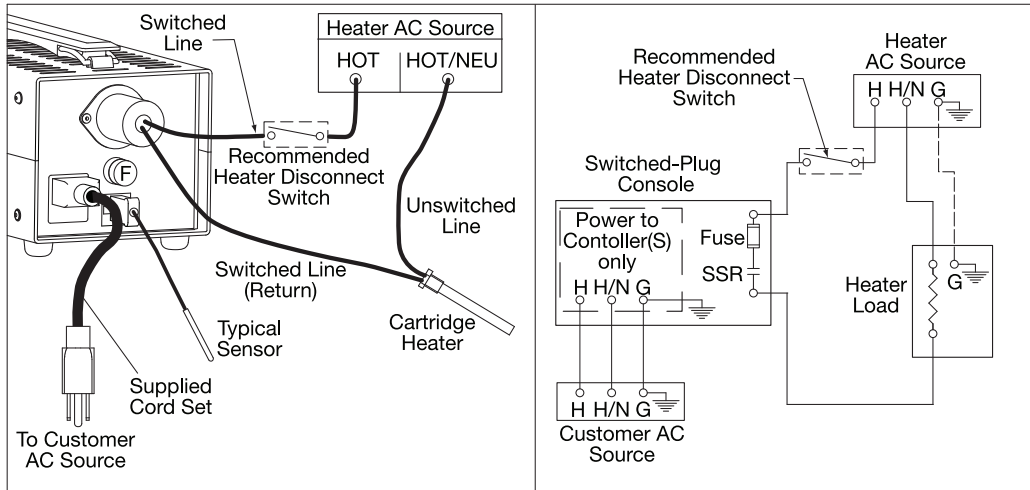

Figure 1. Application Wiring Example (single-zone shown)
2. Power for your heaters is NOT sourced through the console line cord. Refer to **Figure 1. Application Wiring Example** on the next page. The heaters must be wired to their own independent power circuit by a qualified electrician. Do not use the ground pin marked W. The heaters must be grounded using another connection.